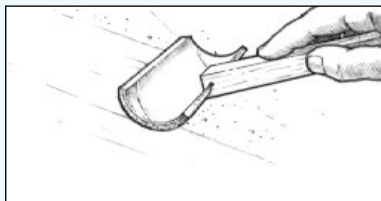

Figure 31 Tip off the coating by dragging a foam roller brush lightly over the fresh epoxy.
8. “Tip off” the coating by dragging a foam roller brush lightly over the fresh epoxy in long, even, overlapping strokes after each batch is applied. Use enough pressure to smooth the stipple, but not enough to remove any of the coating (*Figure 31*). Alternate the direction in which each coat is tipped off, 1st coat vertical, 2nd coat horizontal, 3rd coat vertical, etc. A WEST SYSTEM 800-3 Roller Cover can be cut into segments to make an excellent “tipping” brush.